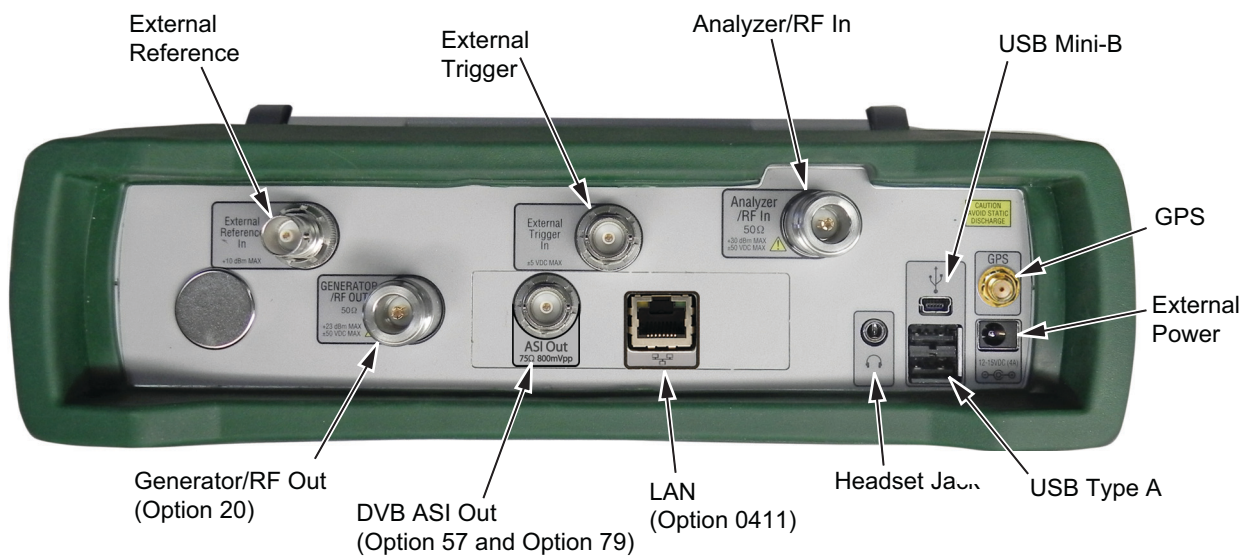

Figure 5-1. Top Bumper
2. Remove the top and bottom bumpers (Figure 5-1) to expose the screw holes on the back of the instrument.
In Figure 5-1, both the Ethernet LAN (Option 0411) connector and the BER DVB ASI Out connector (Option 57 or Option 79) are shown, but they cannot both be installed at the same time. These options are mutually exclusive because the PCB's occupy the same area within the case.